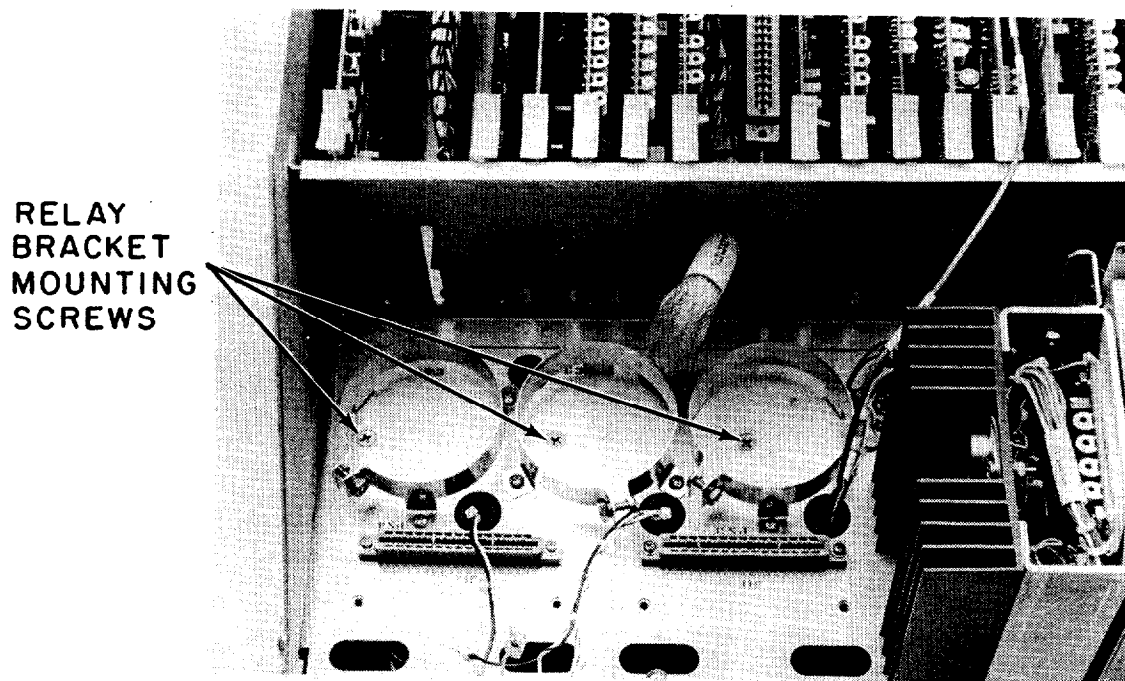

FIGURE 4
1. Remove three relay bracket mounting screws, Figure 4.
- D. Install relay panel assembly and secure with three relay bracket mounting screws, Figure 4.